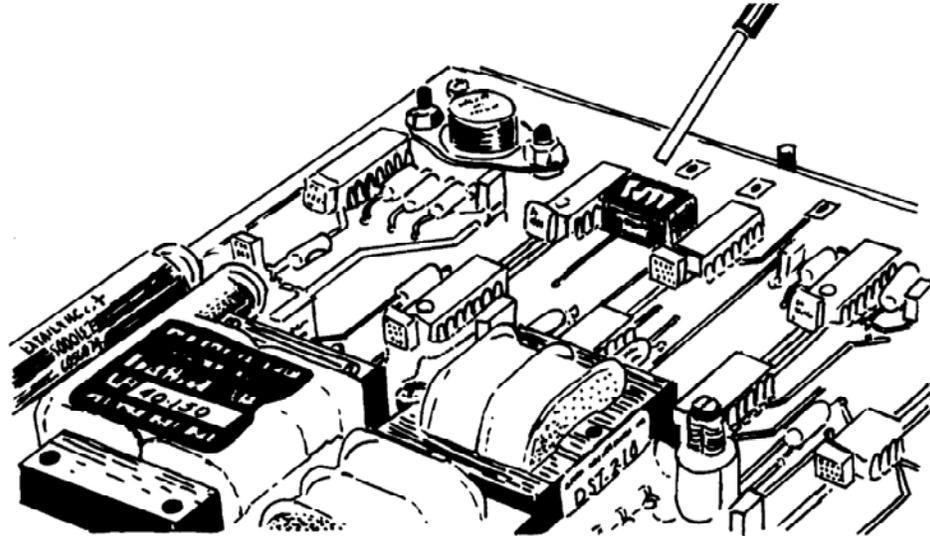

Figure 3-1. Dwell Time Setting Switches
- Set the dwell time using the four-position gang switch located in the upper left corner of the circuit board (see Figure 3-1). The settings are as follows: